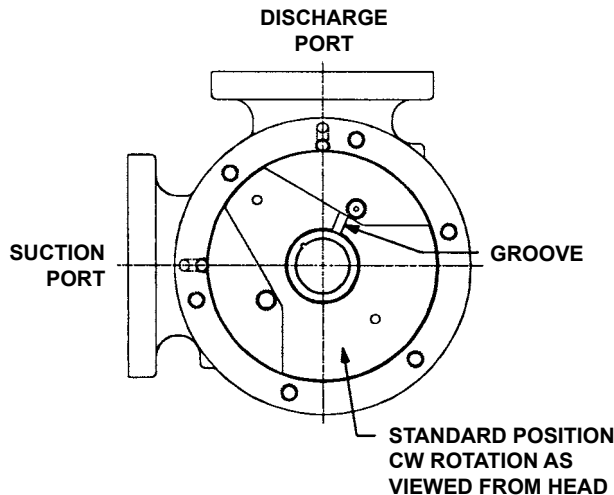

FIGURE 15
2. If casing was removed from bracket, inspect flat gasket and replace if necessary. Install casing onto bracket pilot in the same orientation as before. This series of pumps does not allow rotating the casing to alternate port configurations – to modify the port arrangement, Refer to “Pump Rotation” on page 10. Secure the casing with (8) capscrews.
3. Place the balance plate (if separate from bracket) into the casing bore (this step may not be required in the 825 series). Make sure plate is positioned the same as before. Refer to Figure 15 for standard balance plate positioning.